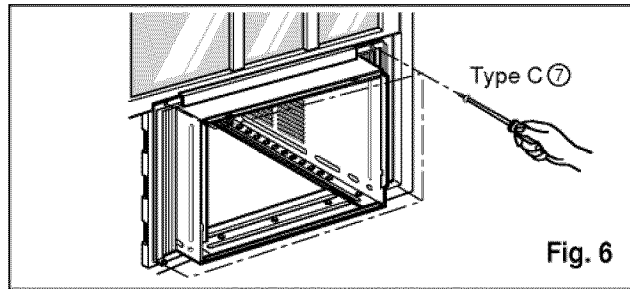

Fig. 6
7. Attach the cabinet to the window stool by driving the screws (6) (Type B: Length sixteen millimeters and below.) through the front angle into window stool.
9. Attach each Frame curtain the window sash using screws ⑦(Type C). (Fig. 6)